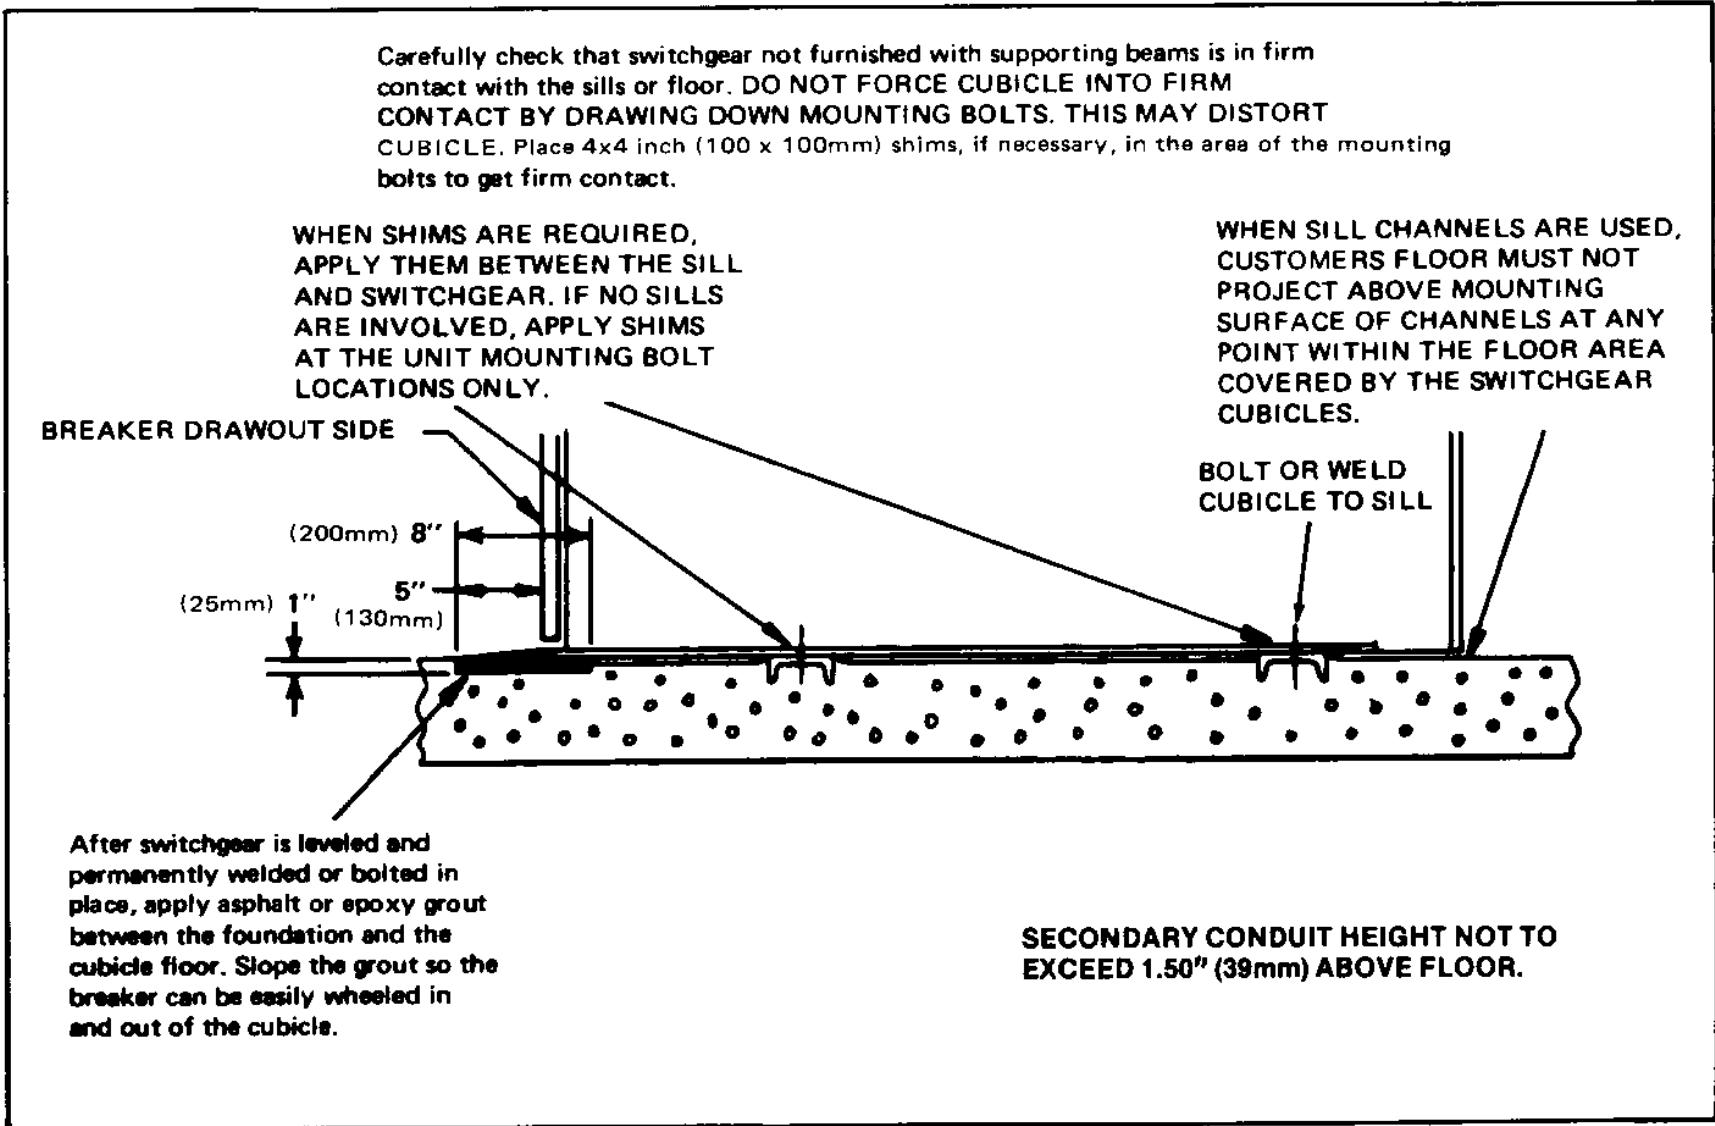

Figure 15. Setting Indoor Cubicles on Foundation
Before setting and erecting the cubicles, determine the correct locations of each shipping group and sequence of installation on the general arrangement drawing. Sweep the mounting surfaces to remove all dirt. Refer to Figures 15 through 21 for additional installation instruction.
Before setting and erecting the cubicles determine the correct locations of each shipping group on the general arrangement drawing. Sweep the mounting surfaces to remove all dirt. Refer to Figures 15 through 21 for additional installation instructions.
1. The switchgear equipment represented was accurately aligned on level steel bed plates at the factory. This care insures proper operation and fit of mating parts. Supporting surfaces for the switchgear at each mounting bolt location must be level and in the same plane. There must not be any projection above this plane within the area covered by the switchgear cubicles. If customers floor or grouted sill channels do not meet this requirement it will be necessary to shim in the following manner. The four (4) anchor bolt locations in each cubicle must freely rest in firm contact with the mounting support surfaces. There must not be any projection or obstruction in other areas which may distort cubicle. Do not force cubicle into firm contact by drawing down mounting bolts as such drastic means will distort cubicles. Add 4" (100 mm) square shims adjacent to anchor bolts until firm contact is achieved. Check each bolt location, 4 per cubicle, and tighten bolts. (See Figure 15.)